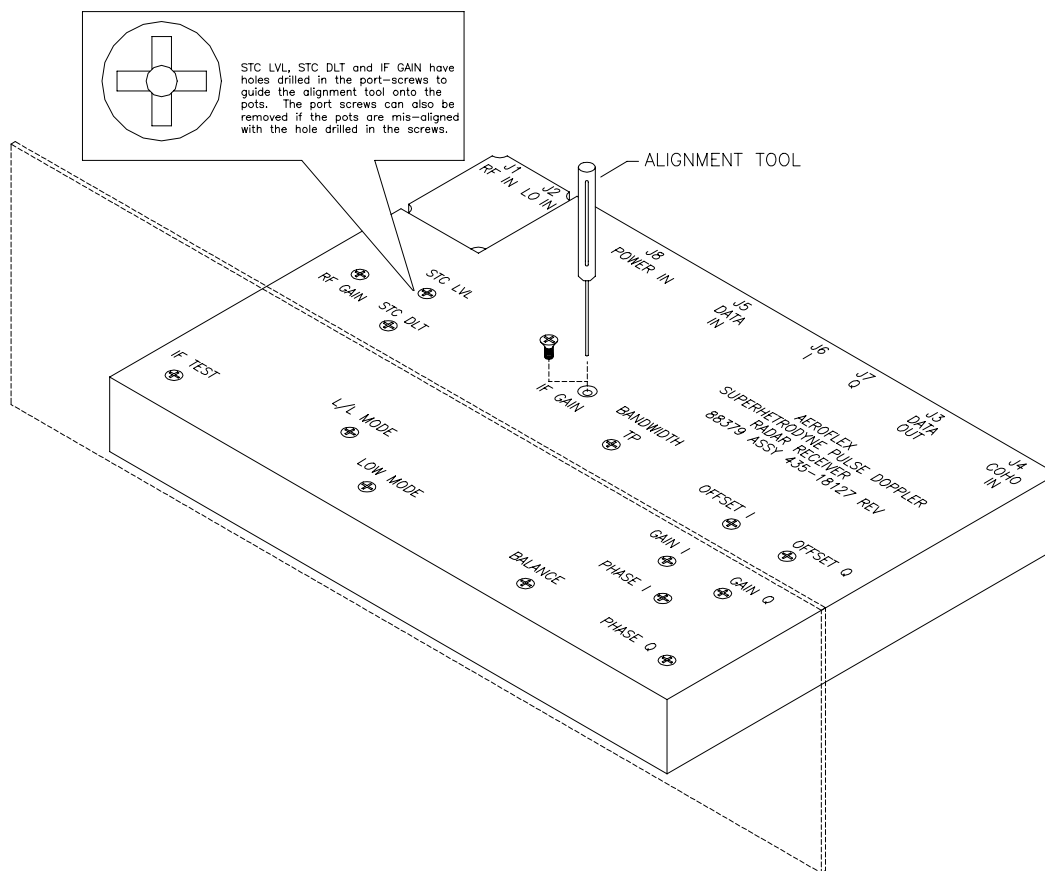

Figure 5-5 Type 2 Receiver Gain Adjustment
2. Carefully insert the alignment tool through the hole drilled in the center of the port-screw labeled IF GAIN on top of the Receiver, as shown in Figure 5-5. The pot may not be visible, so rely on the "feel" to seat the alignment tool on the potentiometer screw head.
To adjust the STC Delay, carefully insert the alignment tool through the hole drilled in the port-screw of the *STC DLT* port on top of the Receiver (refer to Figure 5-5).
To adjust the STC Level, carefully insert the alignment tool through the hole drilled in the port-screw of the *STC LVL* port on top of the Receiver (refer to Figure 5-5).